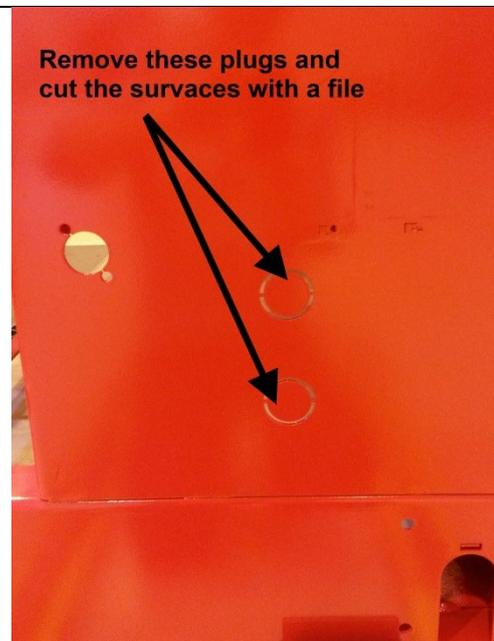

Figure 5.
6. Remove the plugs shown in Figure 5, and smooth the plug attachment surfaces with a file.